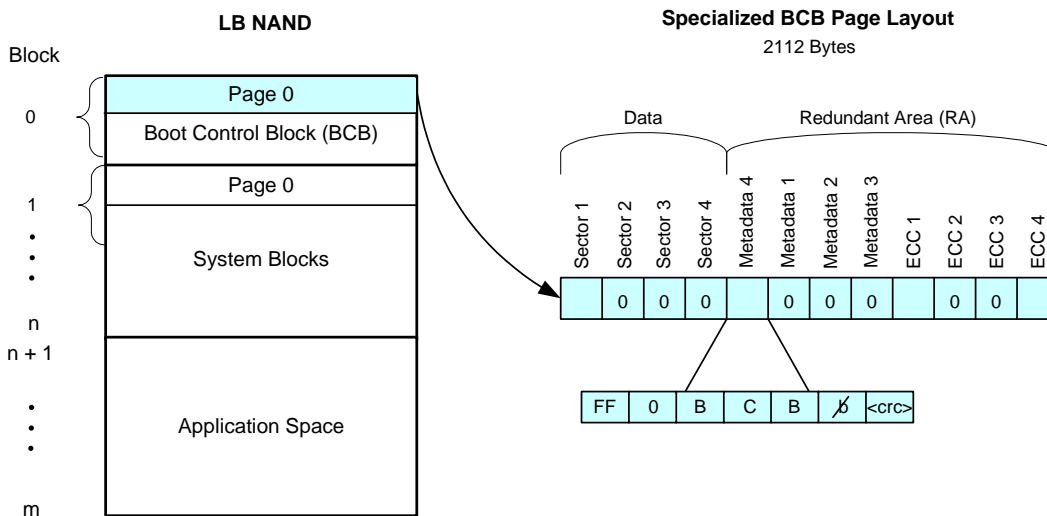

Figure 148. LB NAND with Specialized BCB Page Layout Detail
- 1 Page = 2112 bytes, of which 2048 bytes are Data and 64 bytes are Redundant Area (RA)
- Page 0 of this block is defined in a special way (different from pages in System Blocks). See the specialized BCB page layout in Figure 148.
Figure 148 shows a NAND with the specialized page layout required by the Boot Control Block.